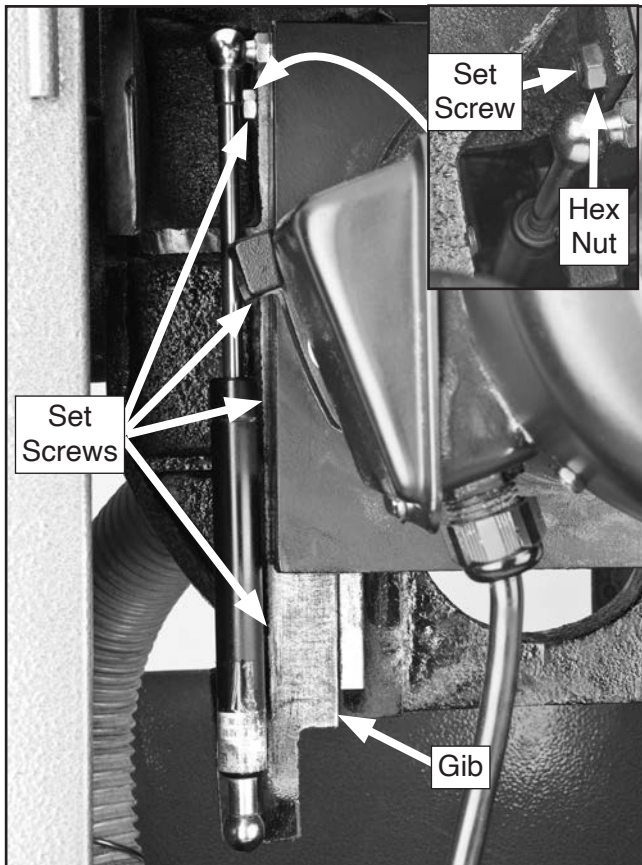

Figure 141. Elevation slide gib components.
Tension is applied to the gib by the four adjustment set screws shown in **Figure 141**.
2. Loosen hex nuts securing (4) adjustment set screws shown in **Figure 141**, then back off each set screw one full turn to release pressure on gib.